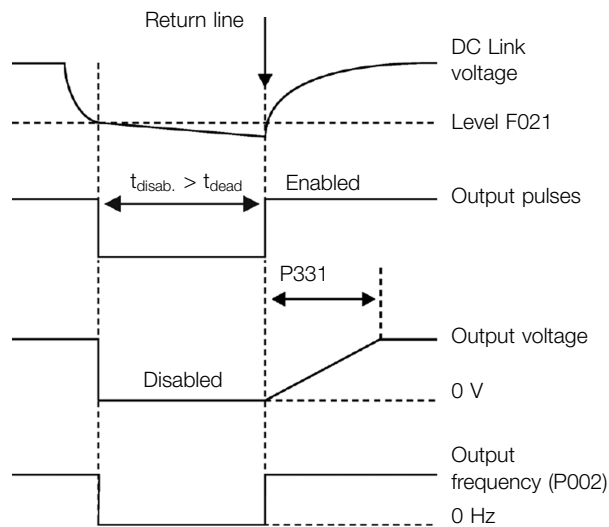

Figure 8.7: Actuation of the Ride-Through function
- Ride-Through Function (RT):** The Ride-Through function will disable the inverter output pulses (IGBT) as soon as the supply voltage reaches a value below the undervoltage value. A fault due to undervoltage (F021) does not occur and the DC link voltage will slowly drop until the supply voltage returns. In case it takes the supply voltage too long to return (over 2 seconds), the inverter may indicate F021 (undervoltage on the DC link). If the supply voltage returns before, the inverter will enable the pulses again, imposing the frequency reference instantly (like in the Flying Start function) and making a voltage ramp with time defined by parameter P331. Refer to Figure 8.7 on page 8-10.